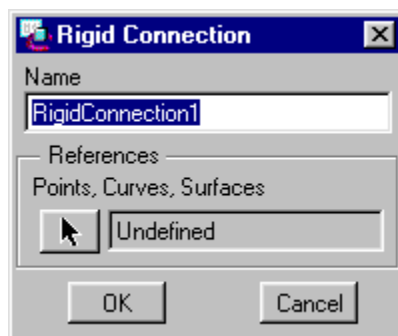

Figure 5
3. Now we can create the Rigid Connection. Then menu picks are **Model, Idealizations, Rigid Connections**. This will bring up the Rigid Connection definition window, see Figure 5. It allows giving a separate name to each Rigid Connection. Select the arrow to choose which entities that should be connected. Geometric entities, such as surfaces, curves and points may be chosen.